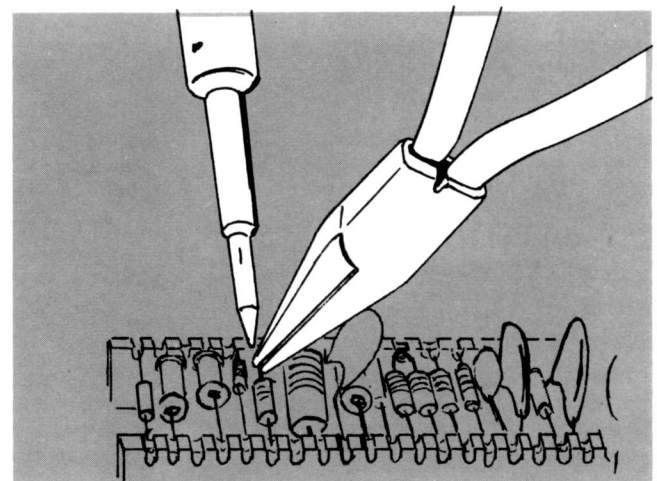
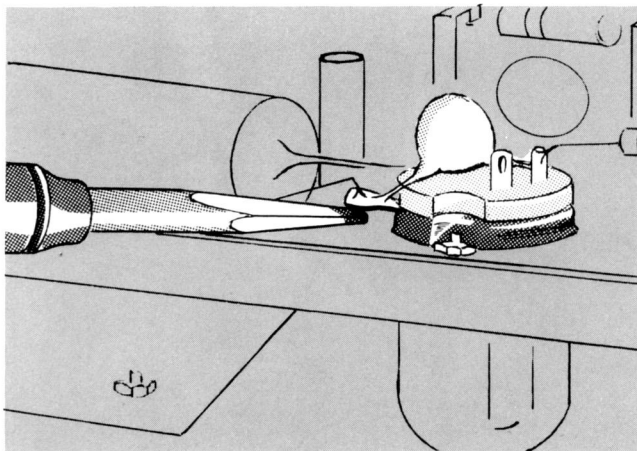

Fig. 5-2. Correct method of applying heat when unsoldering or soldering a lead in a ceramic strip.
Fig. 5-4. Soldering to a metal terminal. Note the slight fillet of solder formed around the wire.
3. Apply one corner of the soldering iron tip to the notch where you intend to unsolder the lead (see Fig. 5-2).
In soldering leads to metal terminals (examples: interconnecting plug, pins on a tube or transistor socket) a similar technique should be employed. Use a soldering iron tip having a shank diameter of  $\frac{1}{8}$ " so that it will go through small spaces between wiring. Prepare the soldering iron as outlined previously and apply the iron to the part to be soldered as shown in Fig. 5-2. Allow the joint to heat sufficiently to permit the solder to flow freely and to form a smooth, slight fillet around the wire as shown in Fig. 5-4.